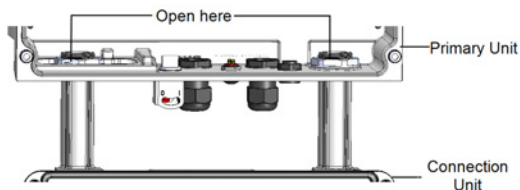

Figure 44: Conduit nuts
6. Unscrew the two conduit nuts in the Primary Unit securing the Connection Unit to it, see *Figure 44*.